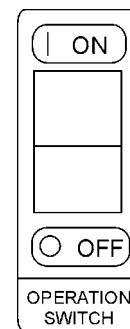

Figure 12. Generator Operation Switch (ON)
4. Place the **generator's operation switch** (Figure 12) in the "ON" position.